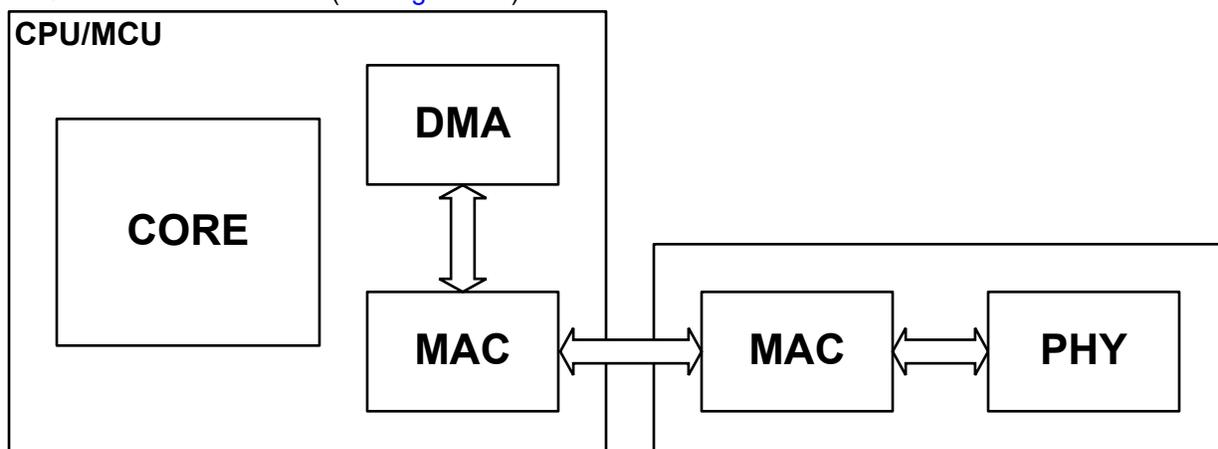

Figure 1-4. Independent MAC and PHY
3. MAC and PHY are external (see Figure 1-4).